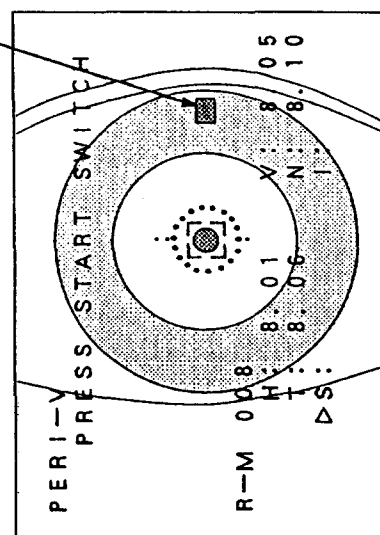

Figure 6-32
- ① Confirm that the cursor is as indicated in Figure 6-32, and make sure the upward mark is located at the top. Measure by rotating the measuring unit by 90° (direction of Figure 6-32).
- ② Measurement procedures are the same as for the horizontal direction.
- ③ After repeating measurement several times, press the PRINT key.